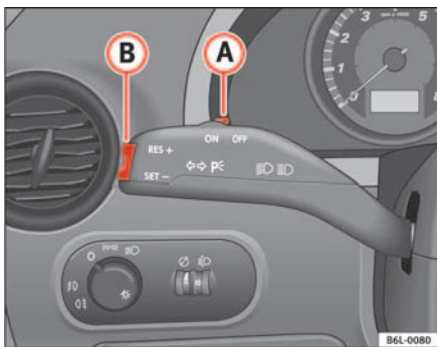

Fig. 103 Turn signal and main beam lever: switch and rocker switch for CCS
- Press the upper part **RES** of the rocker switch ⇒ fig. 103 **B** to increase the speed. The vehicle will continue to accelerate for as long as you keep the rocker switch pressed. When you release the switch, the new speed is stored.
Control of the set speed is switched off if you reduce speed by depressing the brake pedal. Reactivate the control by pressing once on the upper part of the rocker switch **RES+** ⇒ fig. 103 **B**.